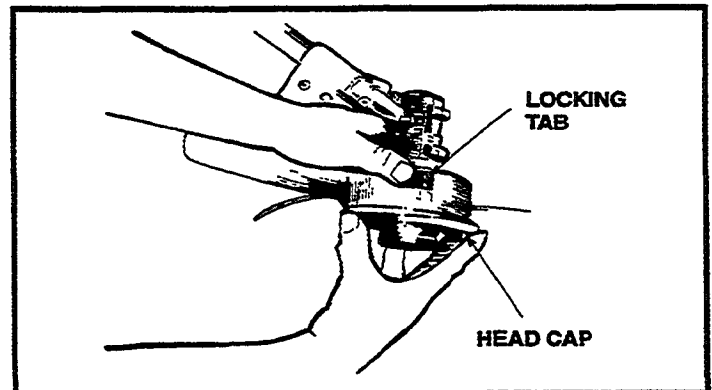

Figure 17
- **Note:** Never operate trimmer with more than six (6) inches of line extended outside the rotary head. Excessive line length can often be identified by low engine RPM when throttle lever is in the full throttle position.
- Push in one of the locking tabs, releasing it from its notch (Figure 17, 18), and pull on the rotary head cap.